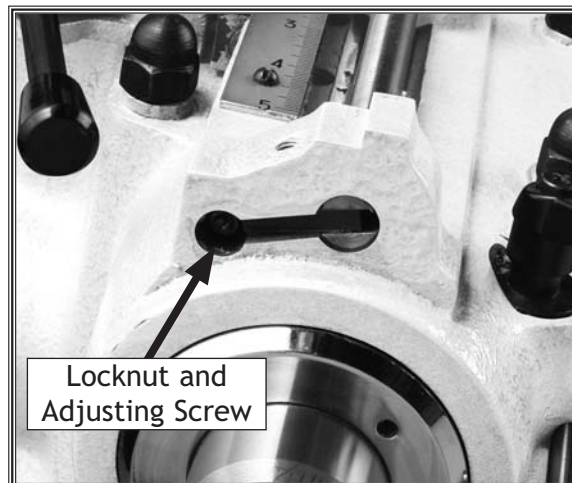

Figure 57. Power feed lever adjusting screw.
1. Loosen the locknut shown in **Figure 57**.
4. Turn the adjusting screw (**Figure 57**) until the power feed lever disengages.